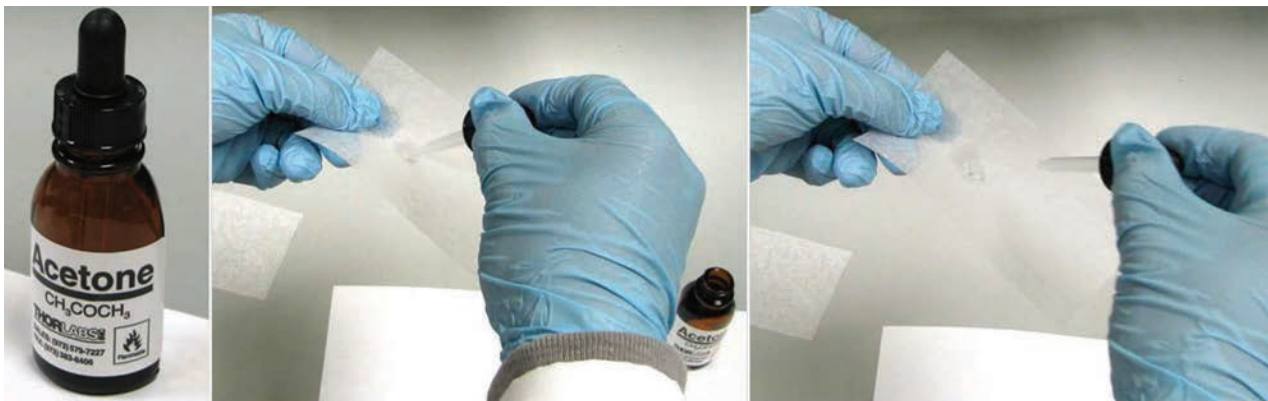

Figure 83: Using analytical grade acetone
4. Using a piece of lens tissue, wet a small area with a very small amount of *analytical grade acetone* (barely wet the lens tissue). Typically, one drop of acetone will suffice. Tilt the lens tissue so that the acetone drop is absorbed by the lens paper along the length of the piece (see *Figure 83 below*).
6. Using a piece of lens tissue, wet a small area with a very small amount of analytical grade acetone (barely wetting the lens tissue). Typically, one drop of acetone will suffice. Tilt the lens tissue so that the acetone drop is absorbed by the lens paper along the length of the piece (see *Figure 83 on page 66* and *Figure 89* below).